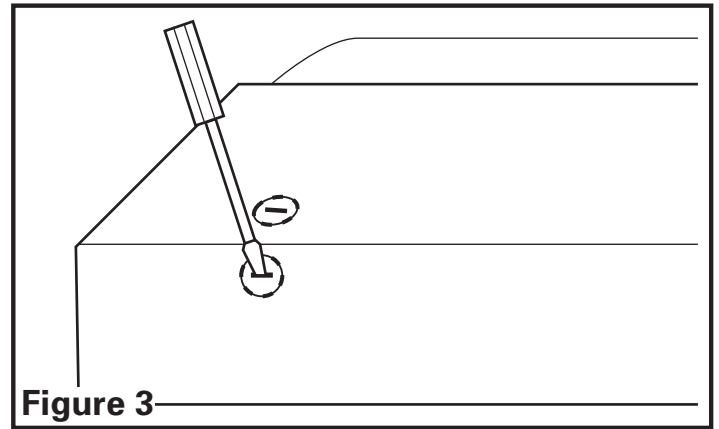

Figure 3
1. Determine where the electrical service will enter the hood and remove the appropriate electrical knockout by inserting a screw driver into the slot and rocking back and forth until the knockout comes loose (**Figure 3**).